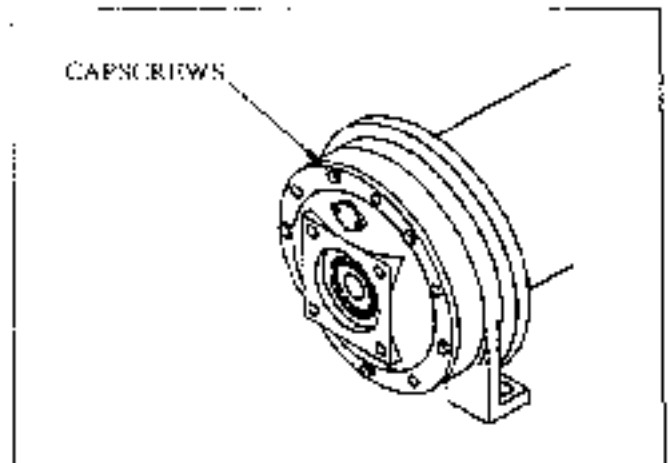

Figure 4
- (1) Remove the end cover by removing six of the twelve capscrews as shown in Figure 4. The belleville spring is compressed against the cover. Remove the remaining six bolts, loosening each bolt equally until the cover is free. This will prevent binding and protect the bearing.